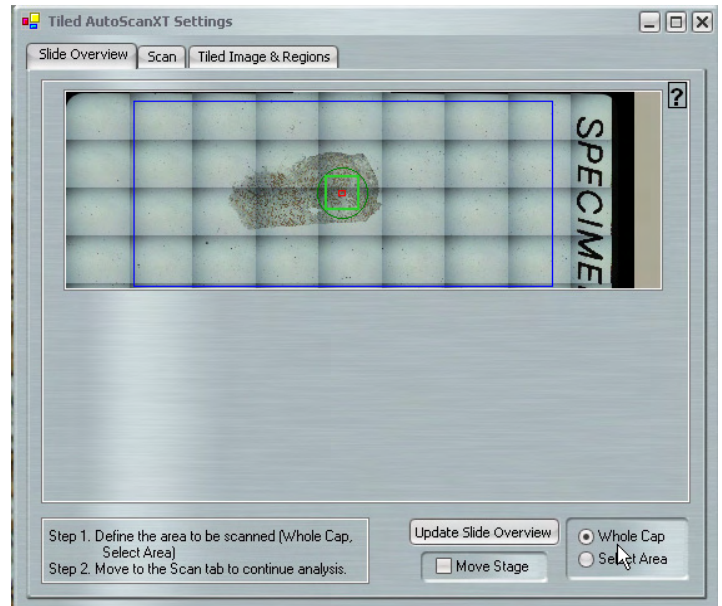

Figure 12. Whole Cap AutoScanXT.
- b. **Whole Cap:** When “Whole Cap” is selected (Figure 12), a green box appears inside the green circle which depicts the CapSure Cap. The area within this square will be analyzed.